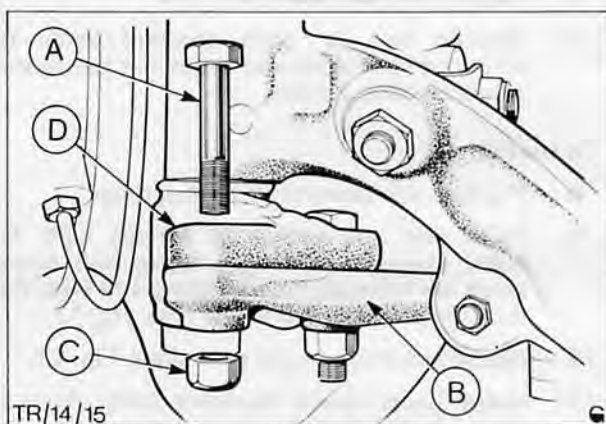

Fig. 15. Removing nuts and bolts securing steering arm to spindle body
- Remove four self-locking nuts and bolts securing both steering arms to spindle body, Fig. 15.